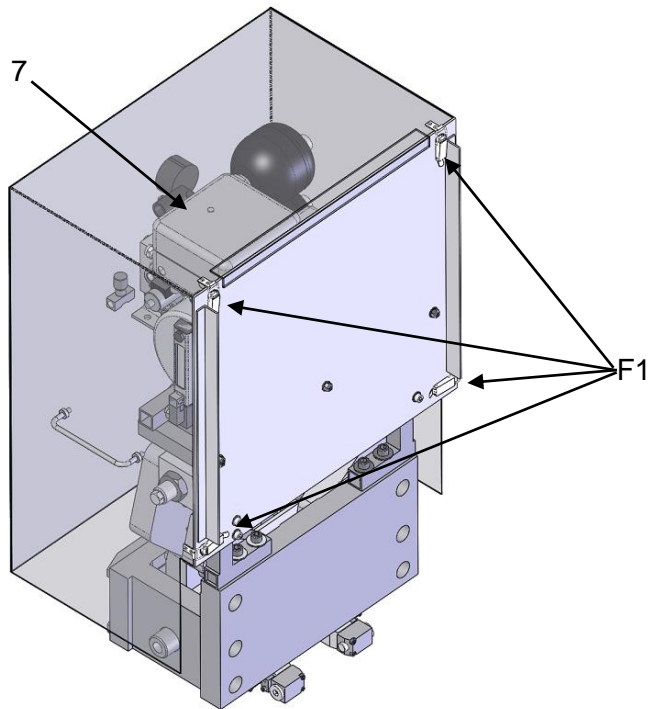

Fig. 2.13
1. Remove the unit's cover (optional) by unclipping the 4 clips F1 (see Fig. 2.13).